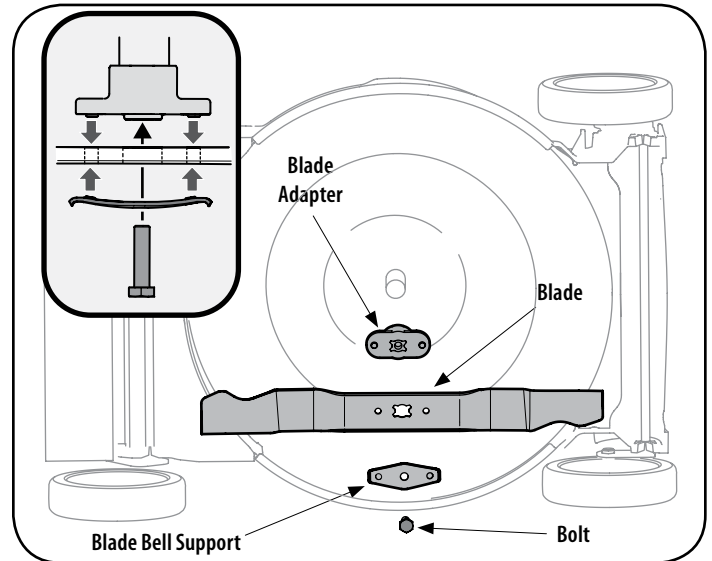

Figure 23
3. Remove the bolt and the blade bell support which hold the blade and the blade adapter to the engine crankshaft. See Figure 23.
6. Lubricate the engine crankshaft and the inner surface of the blade adapter with light oil. Slide the blade adapter onto the engine crankshaft. Place the blade on the adapter such that the side of the blade marked "Grass Side" (or with part number) faces the ground when the mower is in the operating position. Make sure that the blade is aligned and seated on the blade adapter flanges. See Figure 23 inset.